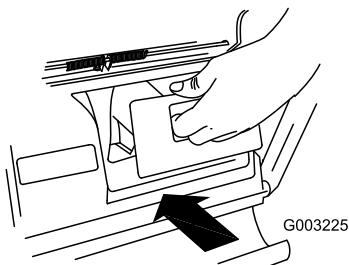

Figure 22
**Important:** Ensure that the rear discharge plug is in place before you recycle the clippings (Figure 22).